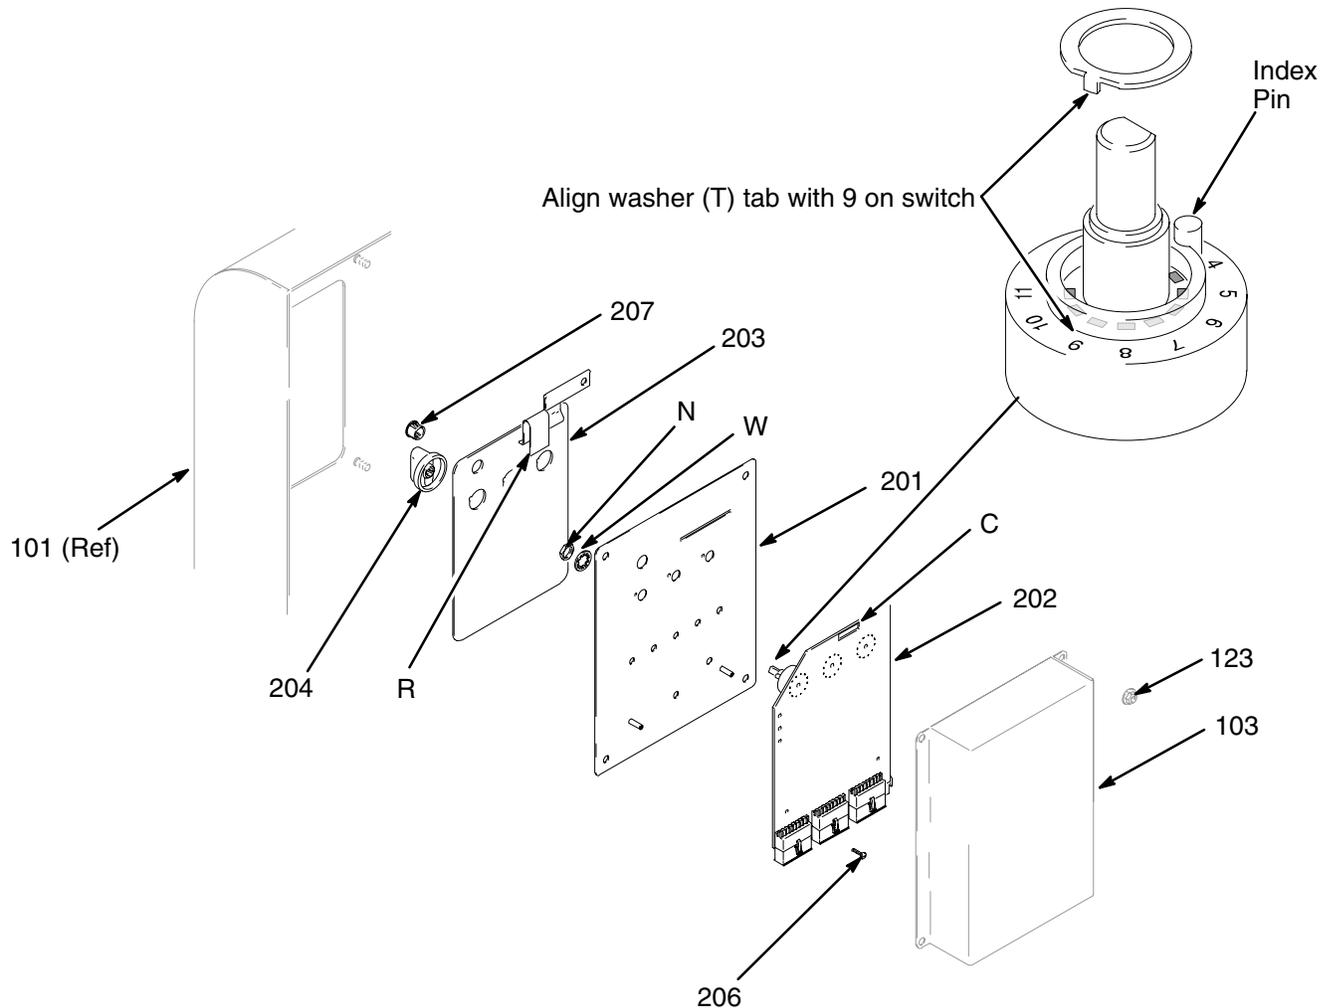

Fig. 13
1. Remove the nuts (123) and take off the circuit board cover (103). See Fig. 13.
2. Pull the knobs (204) off the shafts of the switches.
3. Remove the nuts (N) and star washers (W) from the switches. Do not remove the tab washers (T).
4. Remove the screws (206).
5. Unplug the membrane ribbon cable (R) from the connector (C) on the circuit board (202).